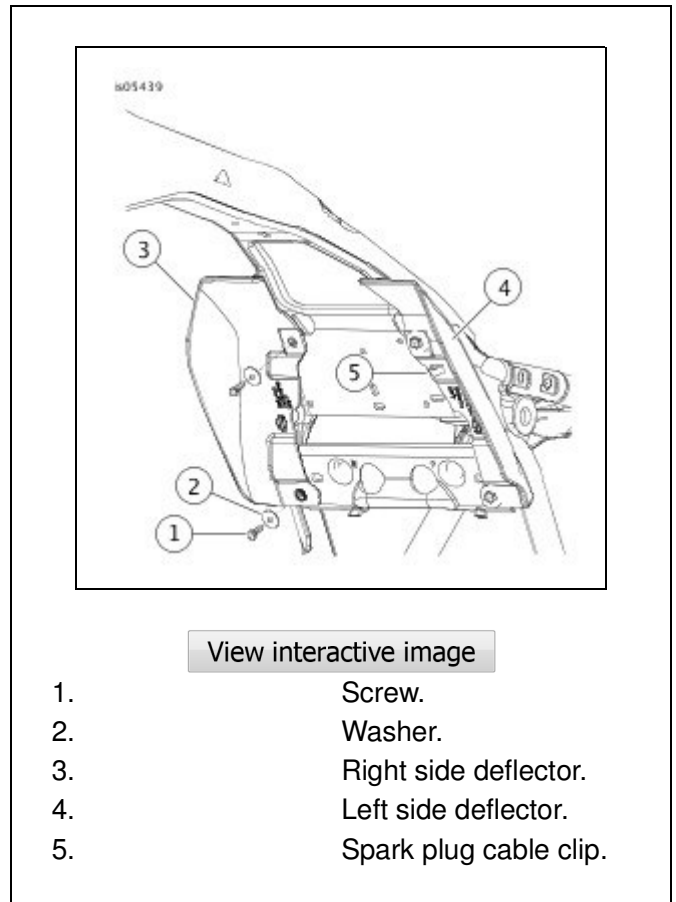

Figure 2. Installing air deflectors
10. See **Figure 2**. Clip the rear spark plug wire to the left deflector using the clip (5) molded into the deflector.